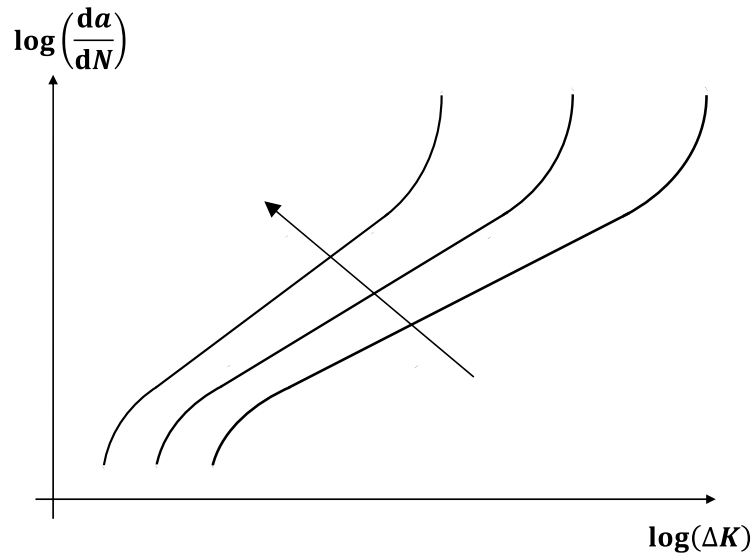

Fig. Q17
17. Fig. Q17 shows a plot of crack growth rate, $\frac{da}{dN}$, vs ΔK . The three curves were each produced using the same maximum fatigue load.